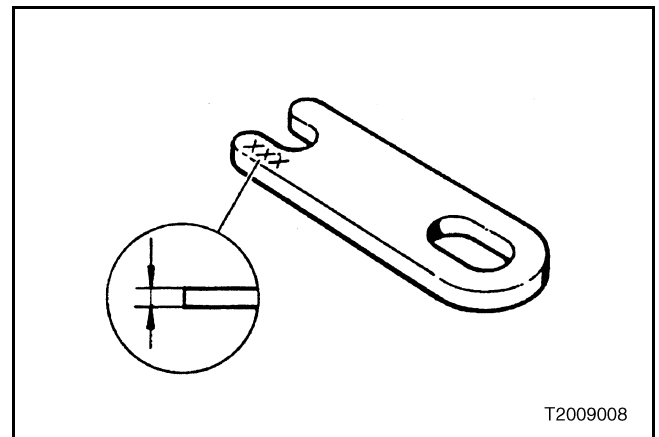

Figure 510 — Engine Compression Brake Adjustment Shim
4. If clearance is not within specification, adjust the clearance as follows, using shims (Figure 510) placed on top of the valve yoke (bridge).